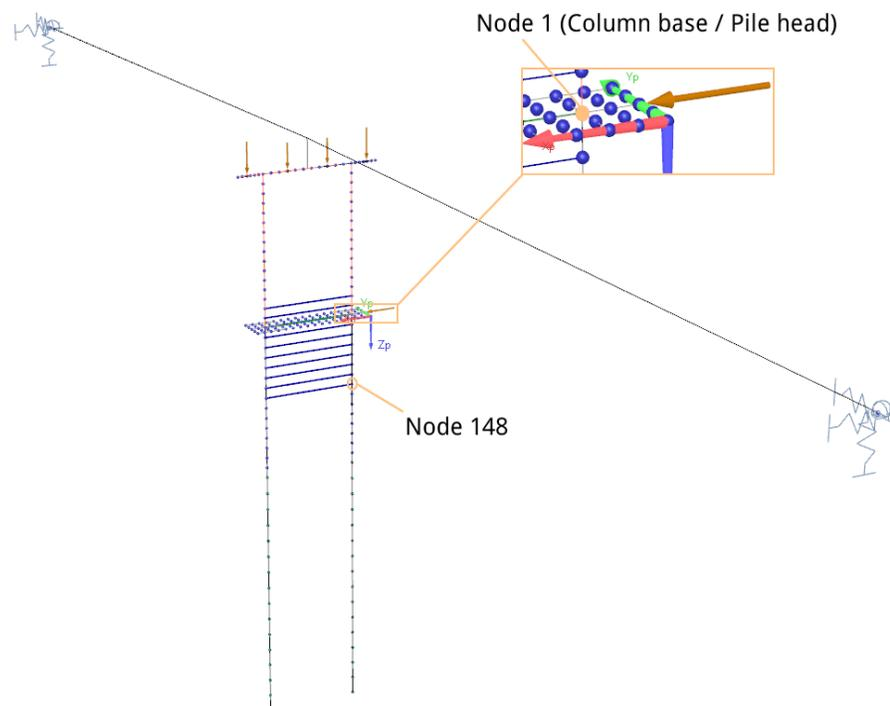
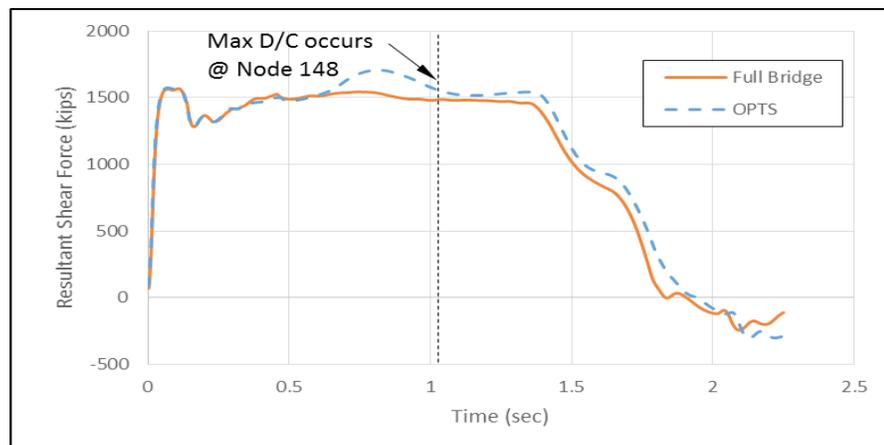
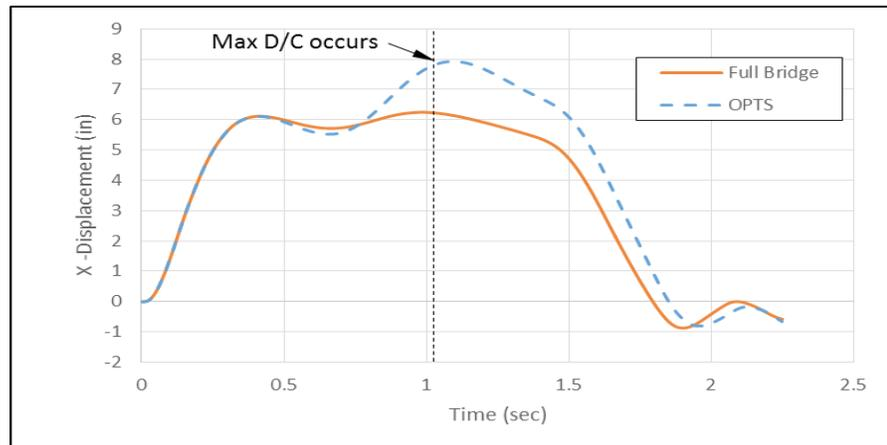

Figure 15 Automatic generation of an OPTS model (from the FB-MultiPier bridge model).
Figure 17 Resultant shear force in global X-direction at the base of the impacted column (Node 1).
Figure 18 Global X-Displacement at Node 148.
4. As part of the OPTS model formation, a special analysis is automatically carried out to calculate the span end concentrated stiffness and mass values. The resulting OPTS model is shown in Figure 15.
On an ordinary desktop PC*, the computational time required for carrying out CVIA using the full bridge model is 40 min. In contrast, when using the same ordinary desktop PC* to analyze the CVIA-OPTS model, only 30 sec. are required. **Figure 17** shows the resultant shear force in global X-direction at the base (Node 1 in **Figure 15**) of the impacted column. The vessel collision impact-load history (**Figure 11**) shows two slightly different stiffnesses during unloading from 1.34 sec. to 1.78 sec. Similar behavior can be seen for resultant shear force at Node 1 in global X-direction (**Figure 17**).
The maximum Demand/Capacity (D/C) ratio occurs at Node 148 (refer to **Figure 15**). In **Figs. 18 to 21**, displacements and forces at Node 148 are compared between the full- bridge and OPTS models. While the displacements are generally conservative among the OPTS model results, computed time-histories of axial force, shear force, and moment show good agreement between both models.